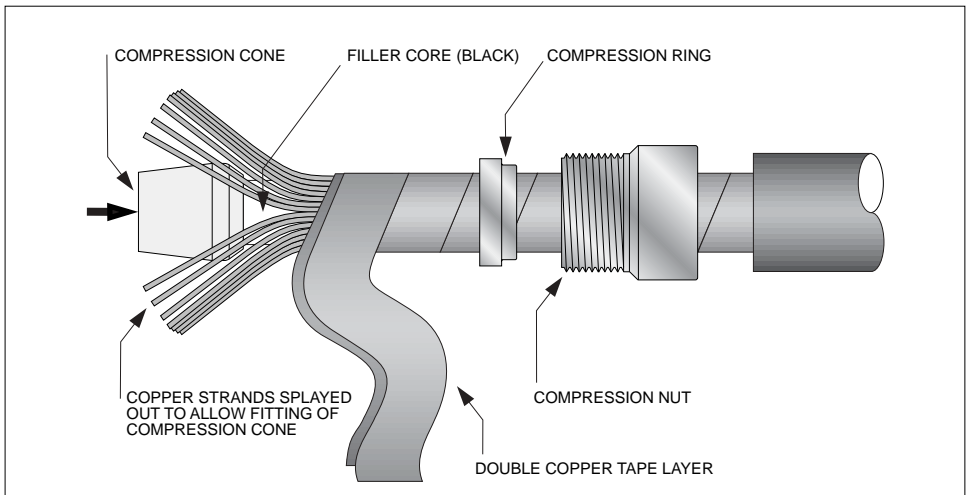

Figure 5: Positioning the compression coupling.
14. Place the compression nut and compression ring of the coupling set over the strands and copper tape layer. Check the order and orientation of the nut and ring against Figure 5 on page 10.
15. Unwrap the material double tape layer back to the compression ring. Place the compression cone between the filler core and the copper strands as shown in Figure 5. The cone should be "pushed on" until it is flush with the end of the filler core. Neatly form the copper strands back over the cone in their original order.